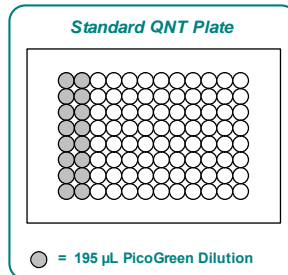

Figure 13 Standard QNT Plate
5. Transfer 195 μl PicoGreen dilution to each well in columns 1 and 2 of a new 96-well black flat-bottom plate (Figure 13). This is the Standard QNT plate.